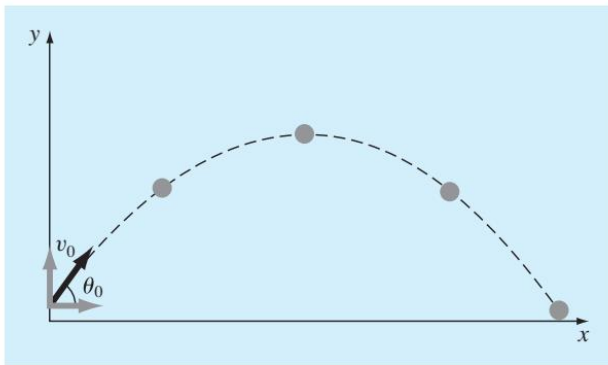

FIGURE P6.21
6.21 Aerospace engineers sometimes compute the trajectories of projectiles such as rockets. A related problem deals with the trajectory of a thrown ball. The trajectory of a ball thrown by a right fielder is defined by the (x, y) coordinates as displayed in Fig. P6.21. The trajectory can be modeled as